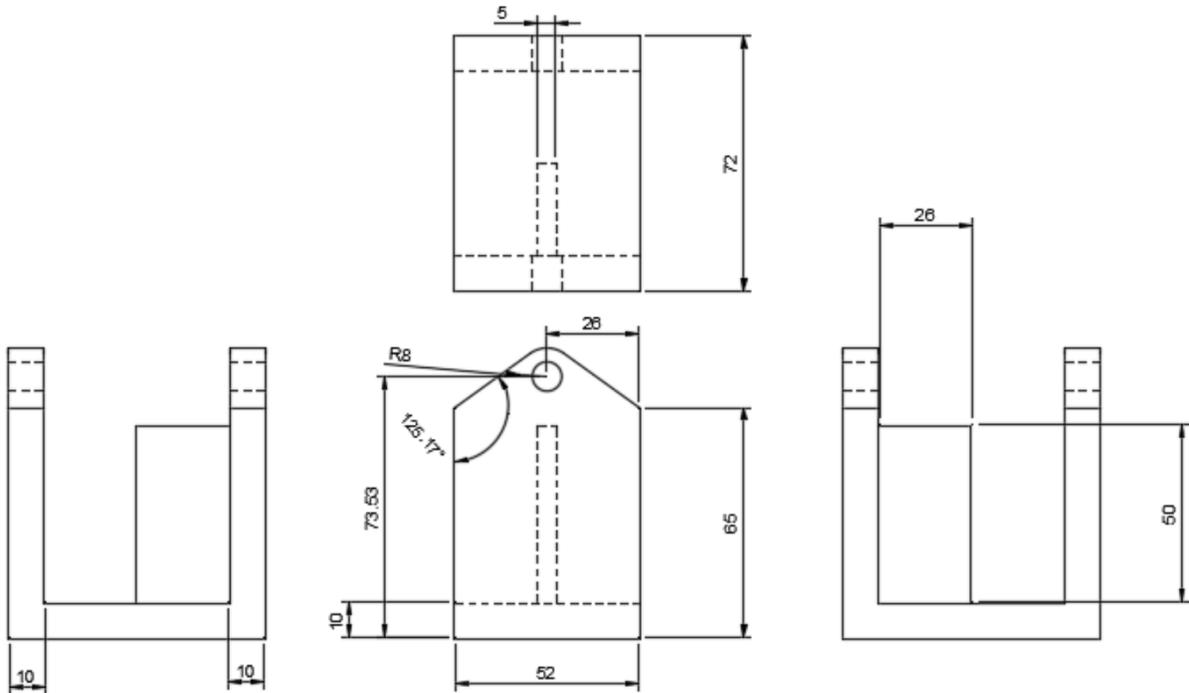

Figure 5: Mechanical Drawing of the Carriage done in Fusion360. All measurements done in millimeters.
- The carriages holding the masses were 3D printed with this STL File on an Airwolf EVO with 0.5mm ABS Plastic Filament. Figure 5 shows a mechanical drawing of the carriage for future modeling.